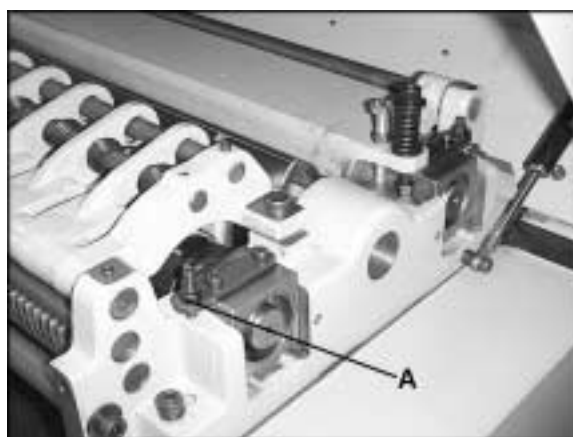

Figure 14
6. If it is not 1/16" below the knife, correct by loosening the hex nut and turning the adjustment screw (A, Figure 14) with a hex wrench.
8. Tighten hex nuts (A, Figure 14) when finished.